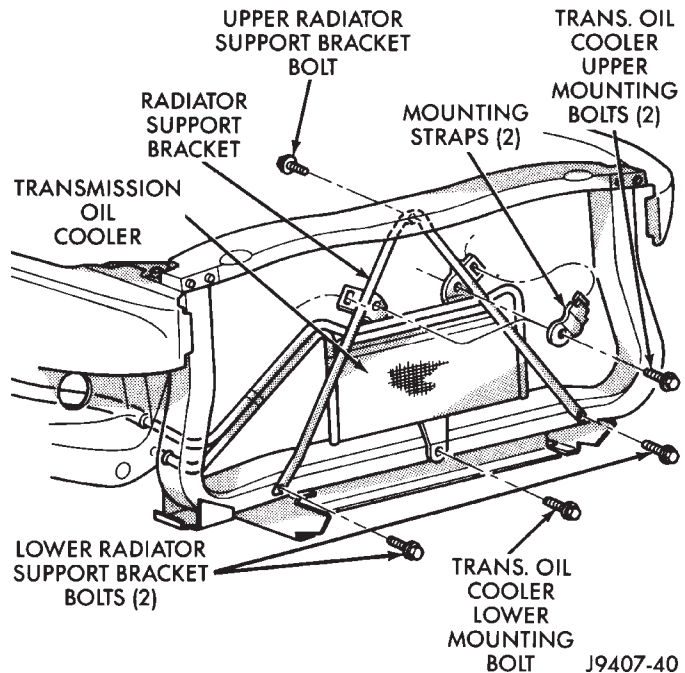

Fig. 77 Auxiliary Transmission Oil Cooler—3.9/5.2/5.9L Engines
(1) Disconnect battery negative cable.
(2) Recover refrigerant and remove the a/c condenser (if equipped). Refer to Group 24, Heating and Air Conditioning for the correct procedure.
(3) Place a drain pan under the oil cooler lines.
(4) Disconnect the auxiliary transmission oil cooler line quick-connect fitting at the cooler outlet using the quick connect release tool 6935. Loosen clamp from inlet connection and slide hose off of nipple. Plug cooler lines to prevent oil leakage.
(5) Remove the oil cooler lower mounting bolt (oil cooler-to- vehicle body) (Fig. 77).
(6) Remove three bolts (radiator support bracket-to-body). Remove this A-shaped support bracket and the transmission oil cooler as an assembly from the vehicle. Take care not to damage the radiator core or A/C condenser fins with the cooling lines when removing.
(7) Remove oil cooler from A-shaped support bracket by removing two upper mounting strap bolts and mounting straps at support bracket (Fig. 77).
(8) Remove oil cooler from the A-shaped radiator support bracket.